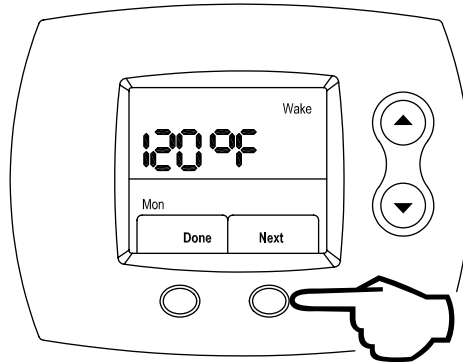

Figure 55
Step 8: Press the **RIGHT** (Next) button to lock in the Wake period water temperature, as shown in Figure 55.